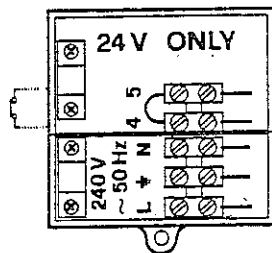

Fig 18
Electrical installation must be carried out by a competent electrician. The appliance is to be connected to a 240 V ~ 50 Hz supply (see fig. 18). The supply fuse rating is 3A. The terminals are accessible after removing the white base plate and single screw securing the terminal cover (see fig. 18)
- 7.2 Room Thermostat (fig. 18) (or remote time clock connection)